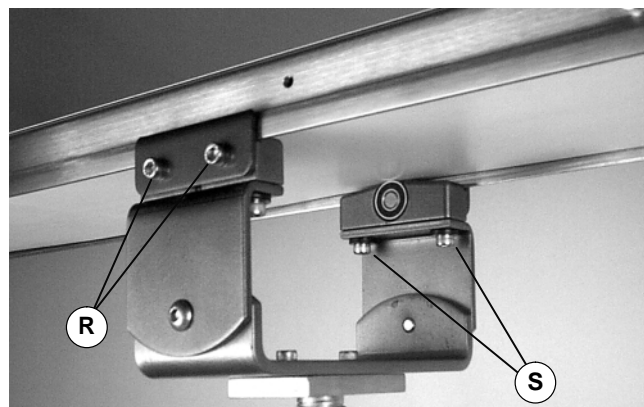

Figure 13
3. Attach clamp plates on each side of conveyor (Figure 13). Tighten the screws (R) to 80 in-lb (9 Nm).